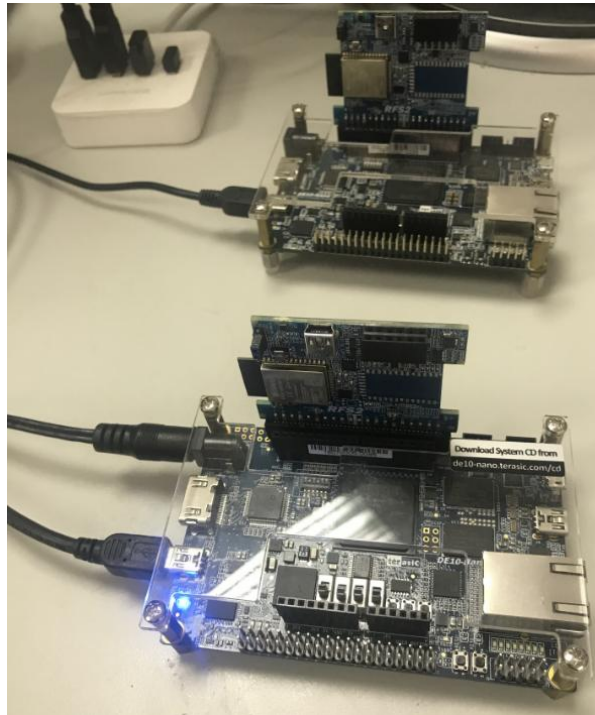

Figure 4-16 Setup Demo on DE10-Nano board
Please follow the procedures below to setup the demonstration as shown in Figure 4-16.
2. See Figure 4-16, using USB cable to connect both the DE10-Nano boards and host PC.